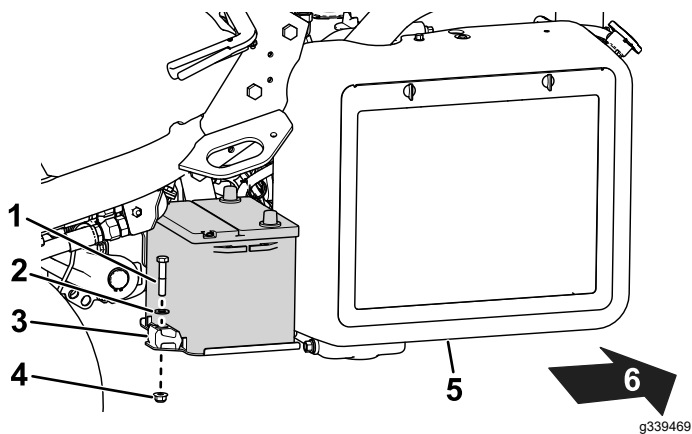

Figure 43
2. Remove the fasteners that secure the battery to the tray (Figure 43) and lift out the battery.
5. Place the battery on the battery tray and secure it with the previously removed fasteners (Figure 43).